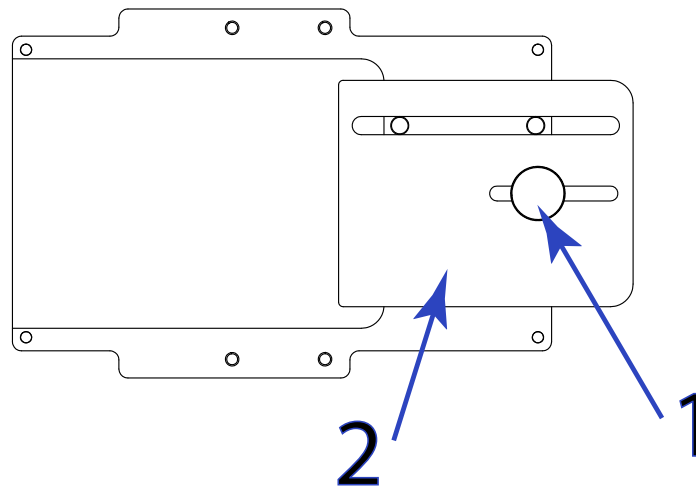

Figure 35. Slider
1. Loosen the thumb screw (number 1 in Figure 35 on page 67) and slide the plate (number 2 in Figure 35 on page 67) to the right.